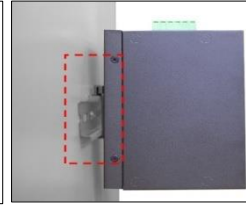

Figure 5
2. Lightly pull down the bracket on to the rail as shown in *Figure 5*.